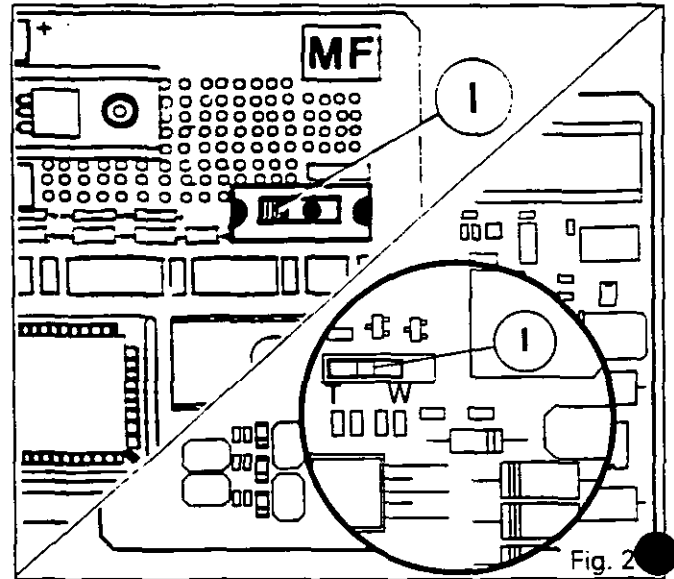

Fig. 2
A test switch (I) is installed on the unit electronic circuit (Fig. 2) :